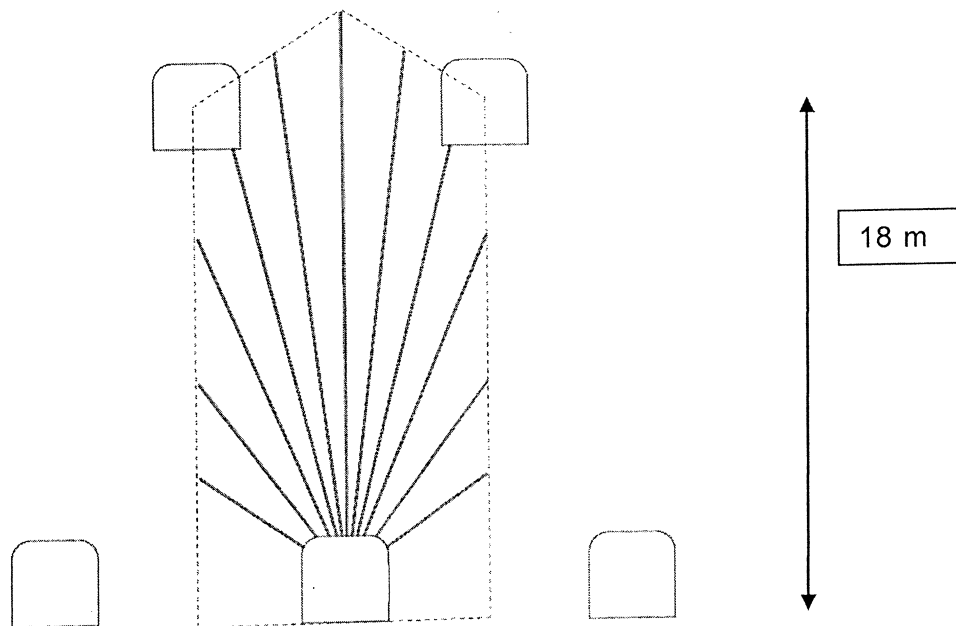

Figure 3. Ring blast
- d. A ring blast drilling pattern is shown in Figure 3. Show how you would load, initiate and time the holes if you are firing two rings per blast.